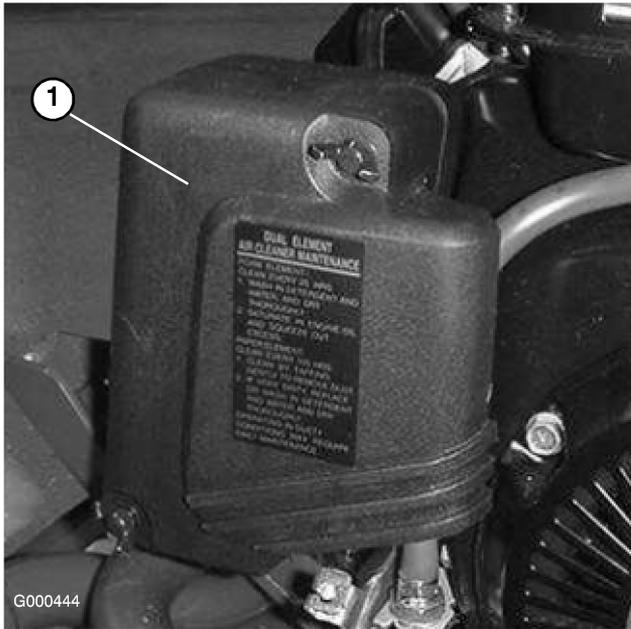

Figure 21
2. Remove wing nuts securing air cleaner cover to air cleaner and remove cover. Clean cover thoroughly (Figure 21).